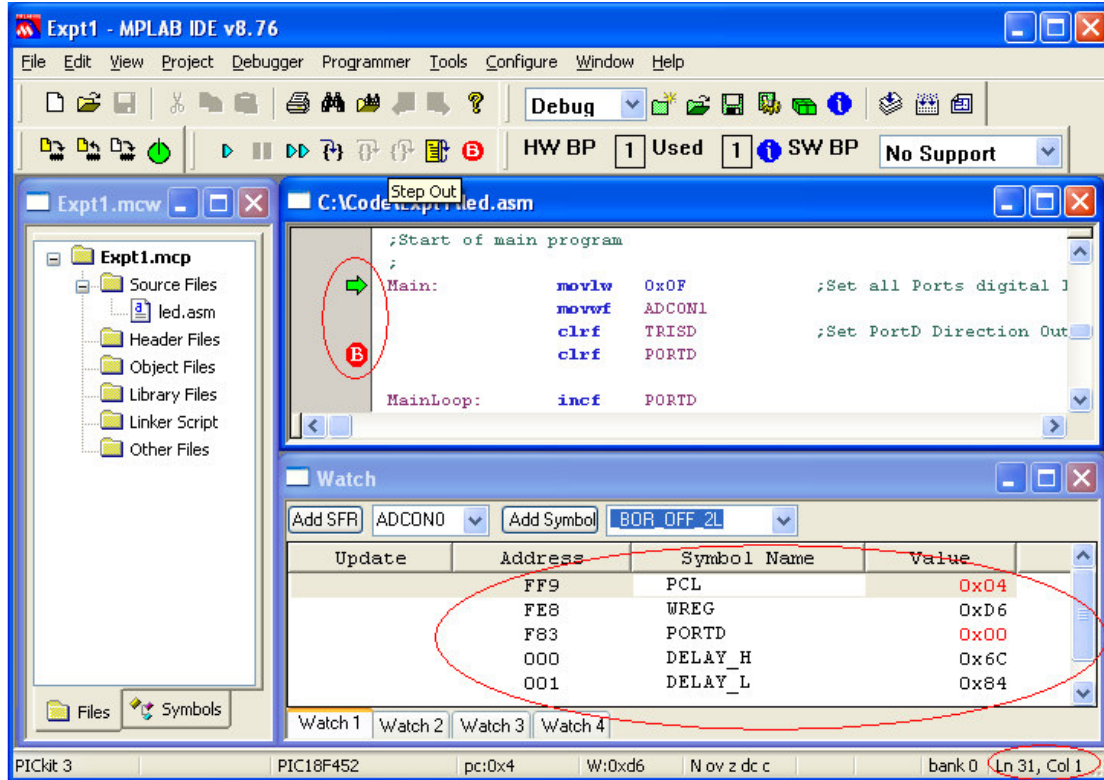

Figure 12 – MPLAB Debugger with Register Watch Point
20. Double-click the source file windows at line #29 “clrf PORTD”. A breakpoint mark appears at the left indicating a program breakpoint has been set at this location. Click “Debugger”, “Reset”, “Processor Reset” to reset the Program Counter (PC) to the program starting point (i.e., 0x0000). (See Fig. 12)